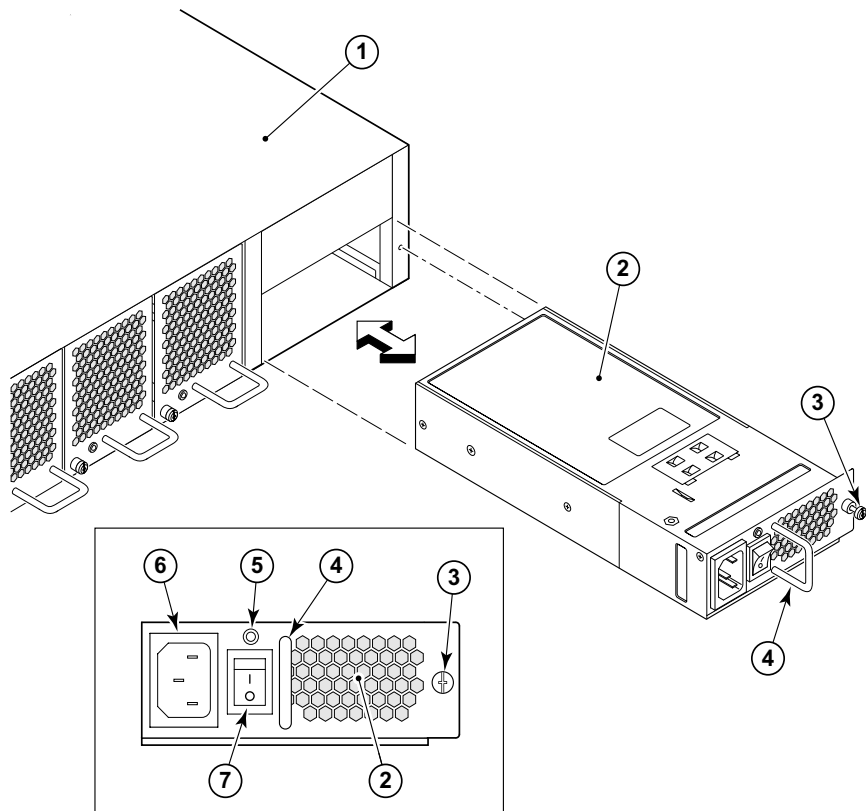

Figure 5-2 Inserting the power supply in the DS-4900B switch
- a. Orient the power supply as shown in Figure 5-2 on page 5-5, with the AC power switch on the left.